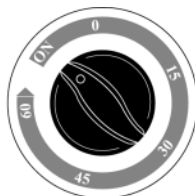

FIGURE 8
3. Set Timer Dial to “ON” position to continue pressing after set time has expired (FIGURE 8). Note that unit will continue to press until you manually deactivate it, so use caution to avoid over-pressing and damaging garments.